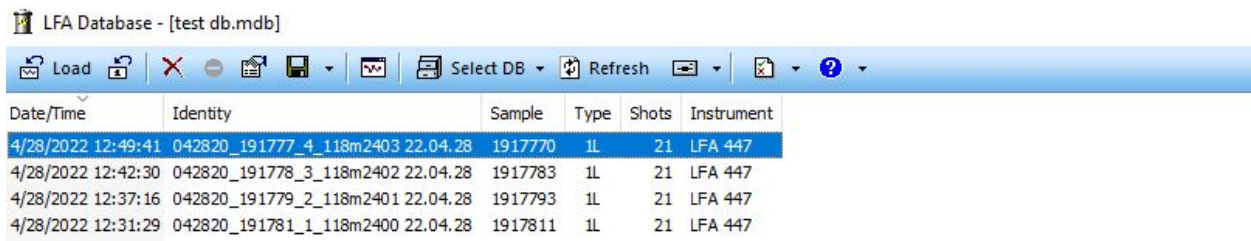

Figure 37. Files to load into the database.
- Highlight the files to load and select the Load icon  (as shown in Figure 37).